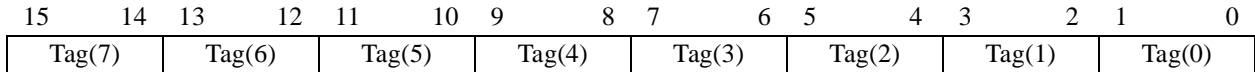

Figure 2-40. FPU Tag Word Register
FPU Tag Word Register. The IBM 6x86MX CPU maintains a tag word register (Figure 2-40 (Page 2-87)) comprised of two bits for each physical data register. Tag Word fields assume one of four values depending on the contents of their associated data registers, Valid (00), Zero (01), Special (10), and Empty (11). Note: Denormal, Infinity, QNaN, SNaN and unsupported formats are tagged as “Special”. Tag values are maintained transparently by the IBM 6x86MX CPU and are only available to the programmer indirectly through the FSTENV and FSAVE instructions.